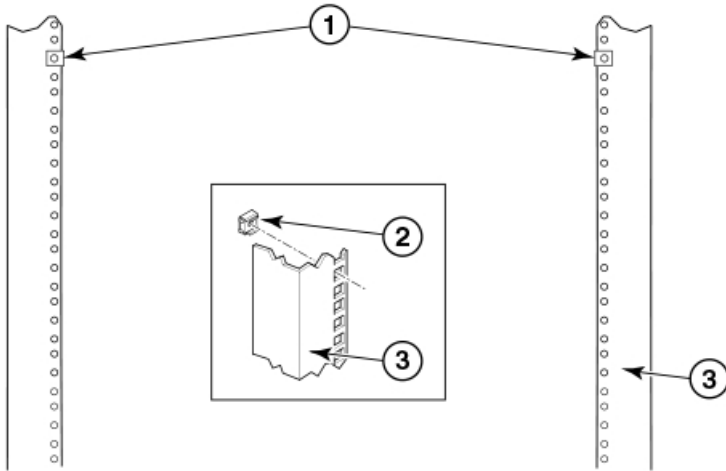

Figure 18. Using clip nuts and retainer nuts to secure screws to rack rails
2. Install the saddle to the equipment rack rails using the following steps while referring to the following figure. Also refer to Figure 18 on page 36 for details on securing screws to equipment rack.